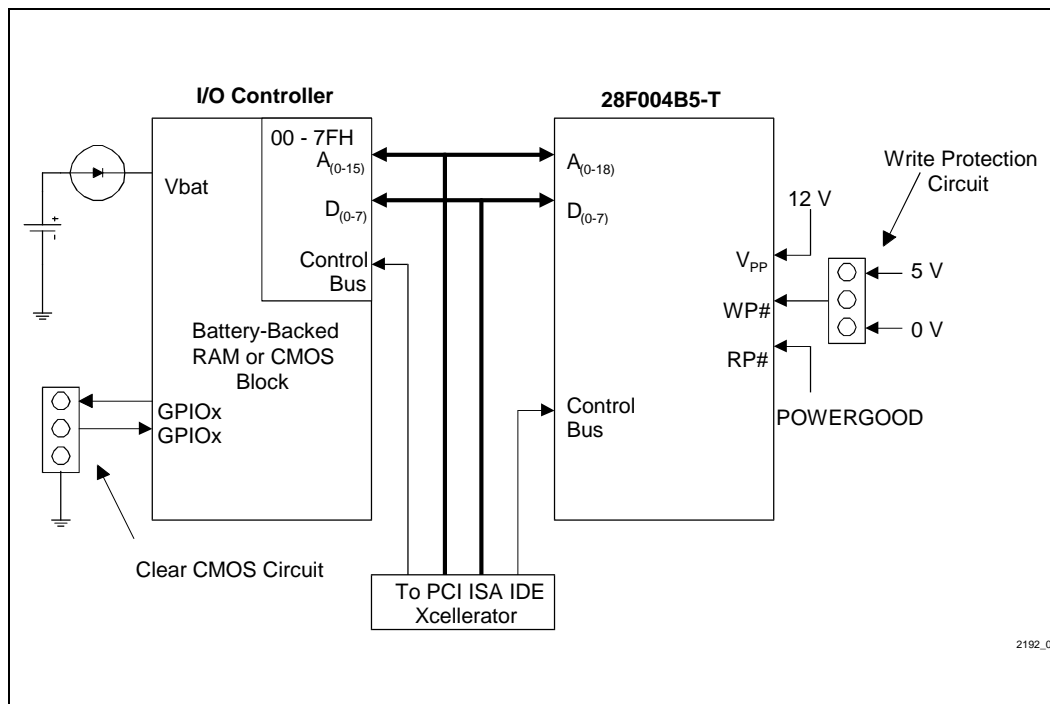

Figure 2. Example CMOS/Flash Hardware Setup
| 2.1 Debug Tools..... | 5 | Figure 2. Example CMOS/Flash Hardware Setup | 7 |
| -002 | Updated Figure 2, Example CMOS/Flash Hardware Setup |
1. Reset or clear the CMOS memory: this action normally clears the CMOS memory and the ESCD (or Plug and Play data block) of the flash device. This is normally done by a jumper on the motherboard and a software utility supplied by the manufacturer of the motherboard. Figure 2 illustrates typical CMOS / flash hardware setup.